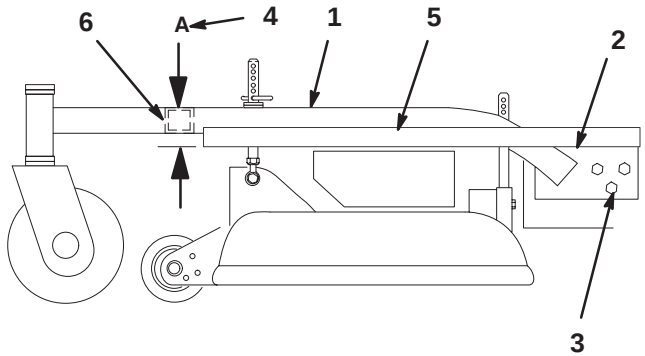

Figure 52
2. Place a long straight edge on top of the engine deck as shown in figure 52.
3. At the carrier frame cross tube, measure location “A” height (Fig. 52). This measurement must be 2–13/16 in. (71.4 mm), plus or minus a 1/4 in. (6 mm).
5. Loosen the carrier frame mounting bolts on both sides of the machine (Fig. 52).
6. Align the carrier frame and engine deck to match 2–13/16 in. (71.4 mm), plus or minus a 1/4 in. (6 mm) at location “A” (Fig. 52).